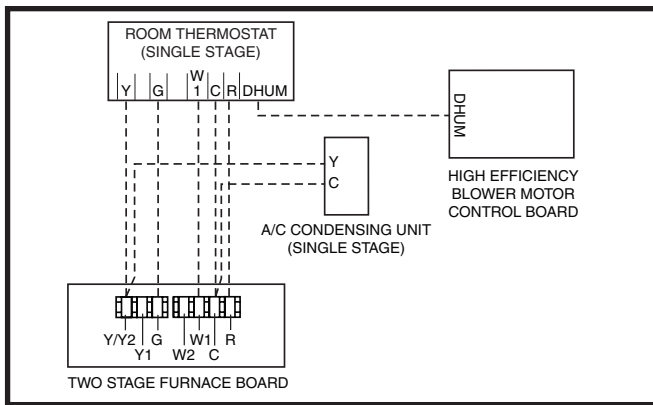

Figure 38. Wiring Configuration 1
- Connect the thermostat's **W** output to the furnace control boards **W1** terminal. This allows the furnace to always run in low output mode. See Figure 38 (page 29).
The Autostaging feature makes it possible to use a single stage thermostat and still receive some of the benefits of 2-stage furnace operation. If Autostage is enabled, the furnace will drop to **LOW** fire after initially starting in **HIGH** fire. After a period of 10 minutes, the furnace will then stage up to **HIGH** fire, until the heating load is met. See Figure 38 and the Low Voltage Connection section on page 28.